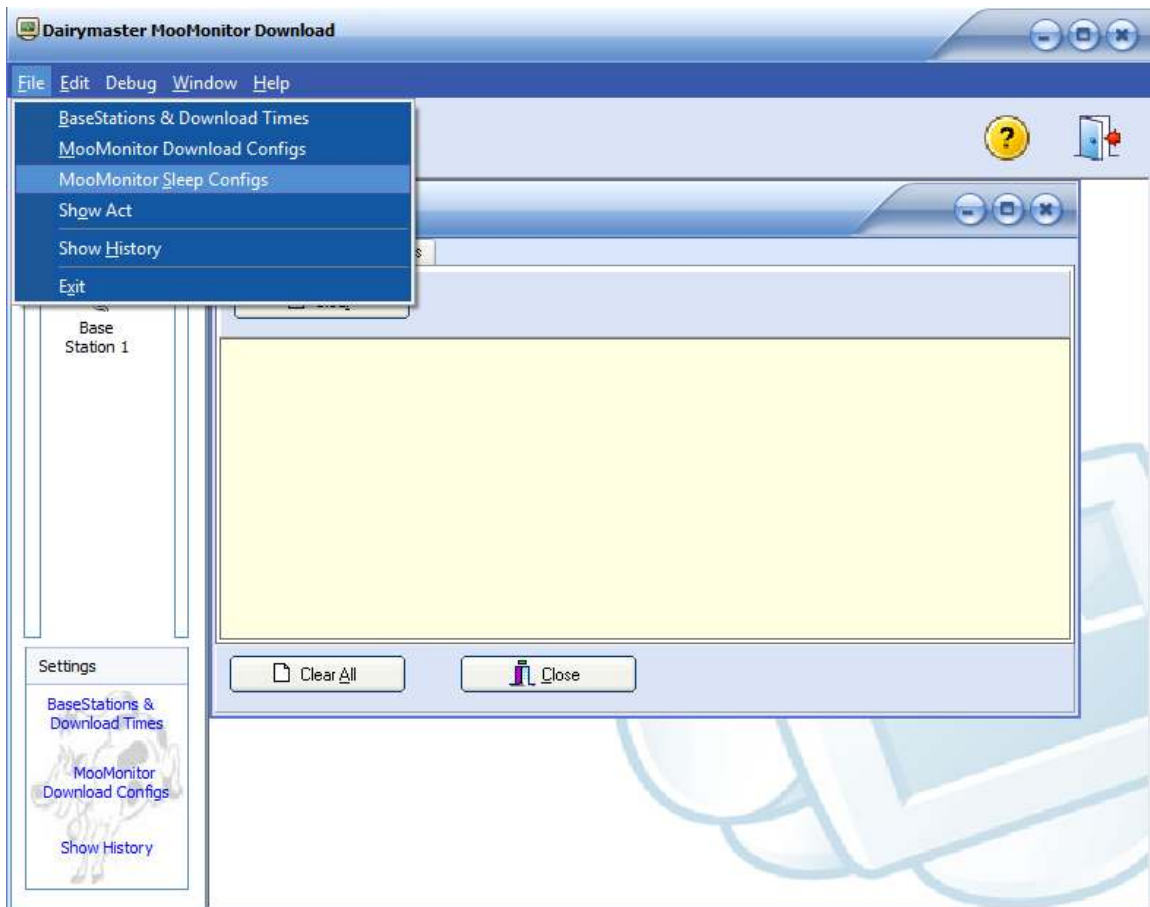

Figure 48 'MooMonitor Sleep Configs' option in the MooMonitor Download Program.
- b. Select the 'MooMonitor Sleep Configs' option from the 'File' menu option as shown in Figure 48 above.